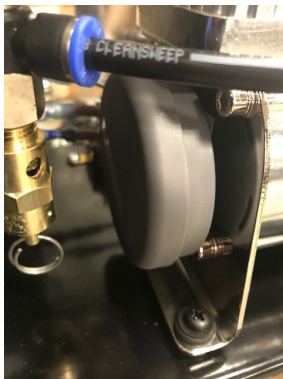

Fig 2
- 2: Un-thread filter housing in figure 2